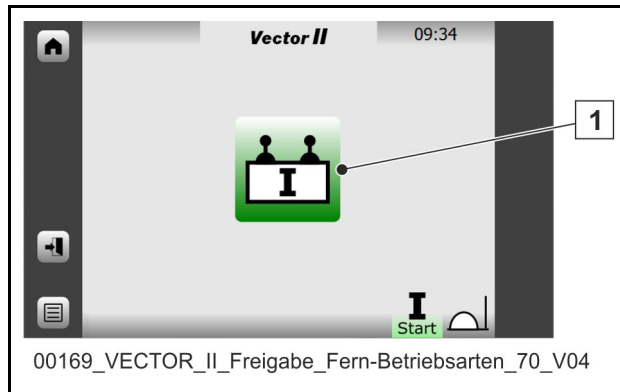

Fig. 91 Releasing an operating mode: Remote
The symbol (1) (**Fig. 91**) indicates that the operating mode must be released on the remote control unit.
After selecting and releasing the “Clean mode” operating mode, control is transferred to the remote control, see (Fig. 91).
After selecting and releasing the “Pump separately” operating mode, control is transferred to the remote control, see (Fig. 91).
After selecting and releasing the “Removable stowing box” operating mode, control is transferred to the remote control, see (Fig. 91).
After selecting and releasing the “Rotatable stowing box” operating mode, control is transferred to the remote control, see (Fig. 91).